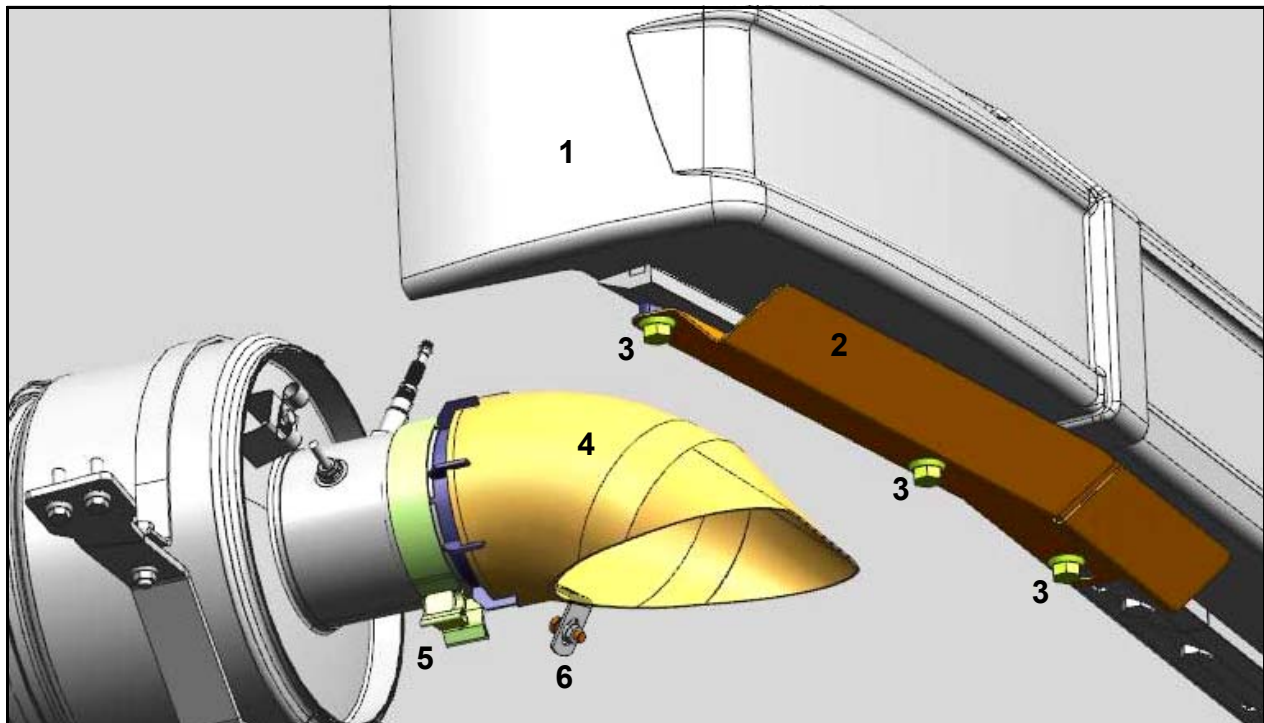

Figure 2.
5. Orient the shield assembly, p/n 03-21-1733, as shown in Figure 2 to identify the existing bumper bolts to be removed.
6. Remove and discard the three (3) identified bolts from the bottom of the bumper, required to mount the shield assembly. Orient the capscrews, p/n 19-01-1529, through the shield holes and position the spacers, p/n 19-05-0388, on top of the shield assembly and underneath the bumper. Align and mount assembly to the bumper using the existing nuts and clipnuts as shown in Figure 2. Torque capscrews to 45-50 ft-lbs.
| Item | Figure 2 Description |
8. Orient and position the short flange of the bracket, p/n 08-01-1043, inside the tailpipe as shown in Figures 2 and 3. Using the hole in the bracket as a drilling template, mark the location of the hole with a scribe or marker.